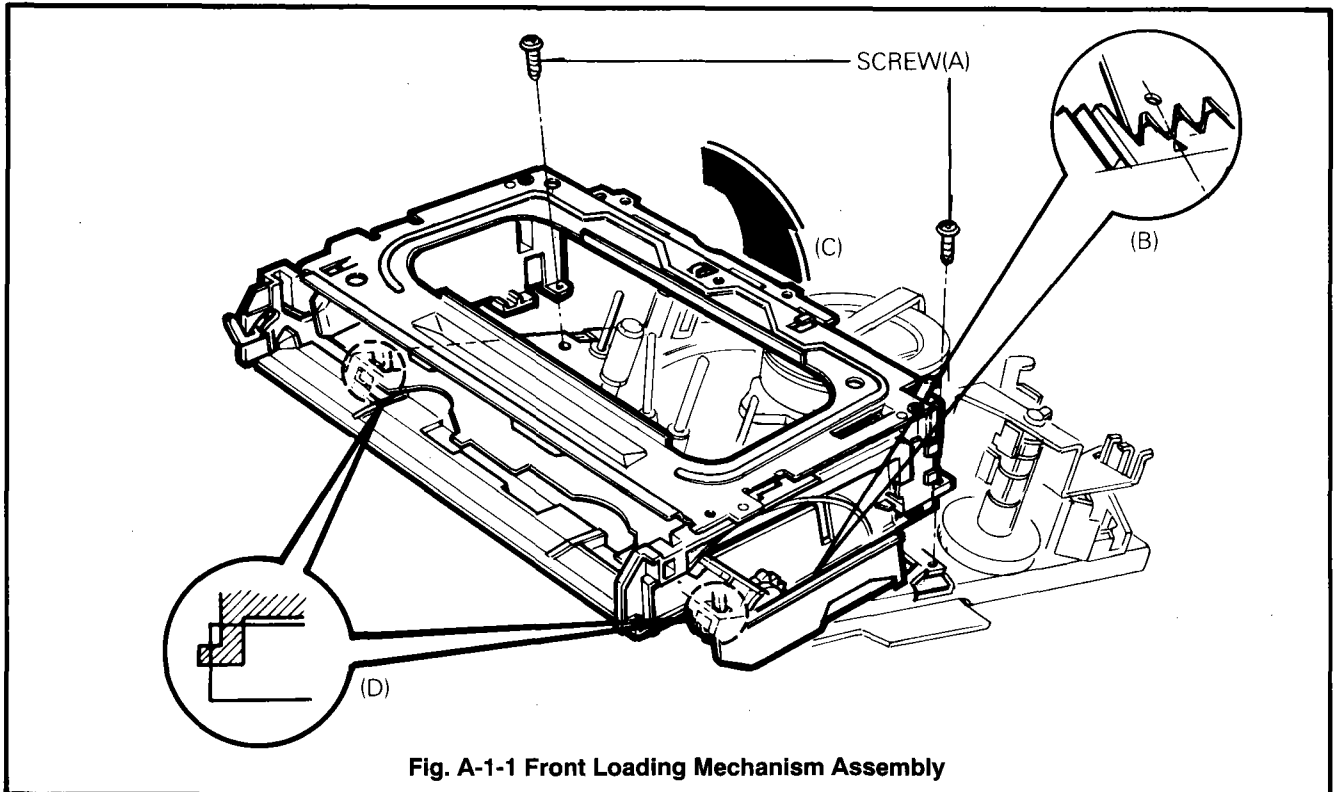
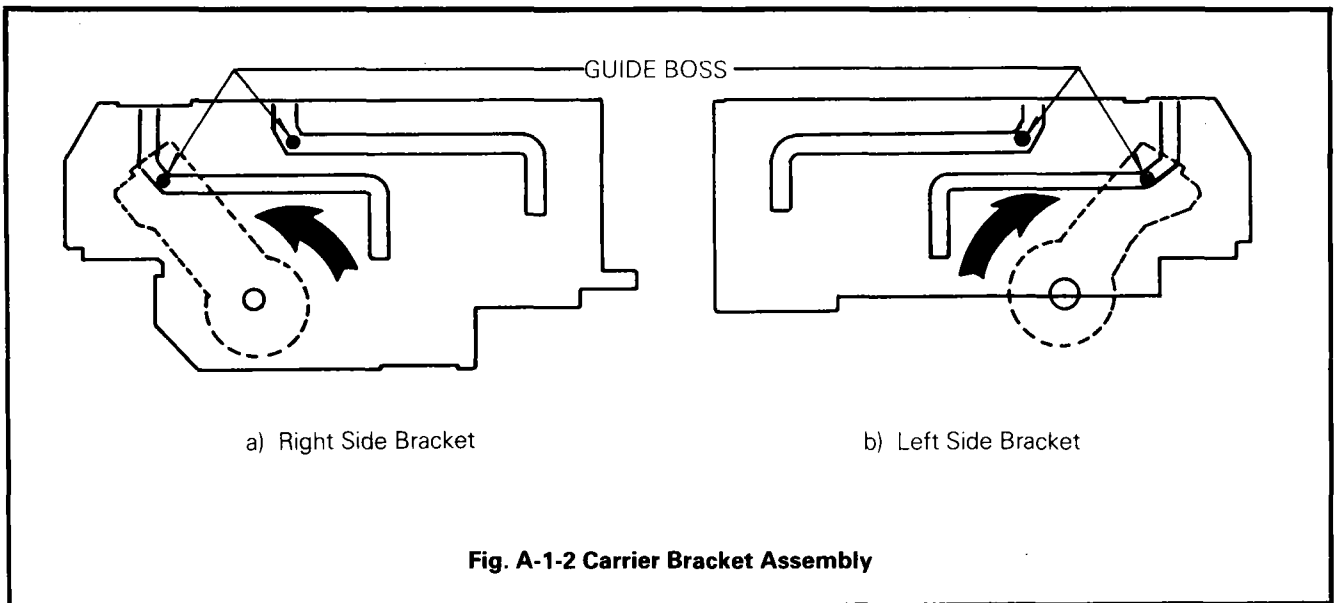

Fig. A-1-1 Front Loading Mechanism Assembly
Fig. A-1-2 Carrier Bracket Assembly
1. Front Loading Mechanism Assembly (Fig. A-1-1)
- ① Give special attention to removal, because two tabs(D) are engaged.
- ② Make sure that Bosses of Bracket(L),(R) are properly engaged in the holes of the chassis.
- ③ To reassemble Front Loading Mechanism, the Drive Gear Assembly should be turned in a counterclockwise as shown in Fig. A-1-2 so that the Rack Gear N.D of Front Loading Mechanism Assembly is meshed into Rack Gear F.L of Deck Mechanism Assembly correctly as shown in Fig. A-1-1.(B).